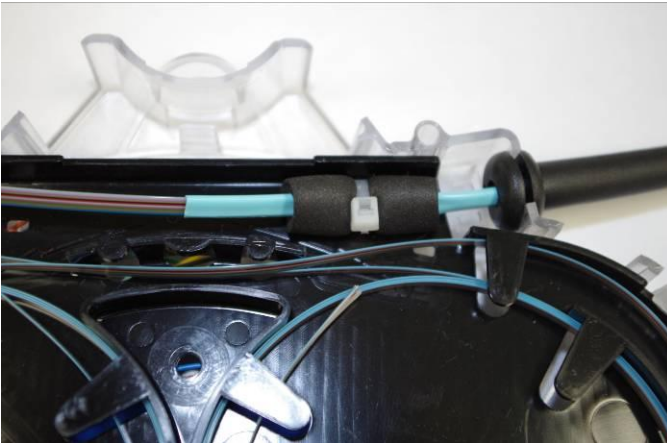

Figure 2
- Step 2:** Take the incoming buffer tuber, place the grommet wrap in the splice tray and secure the zip tie to fasten the cable to the splice tray (**Figure 2**).